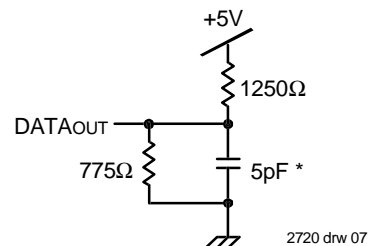

Figure 2. Output Test Load
1. Transition is measured  $\pm 500\text{mV}$  from Low or High-impedance voltage with the Output Test Load (Figure 2).
1. Transition is measured  $\pm 500\text{mV}$  from Low or High-impedance voltage with Output Test Load (Figure 2).